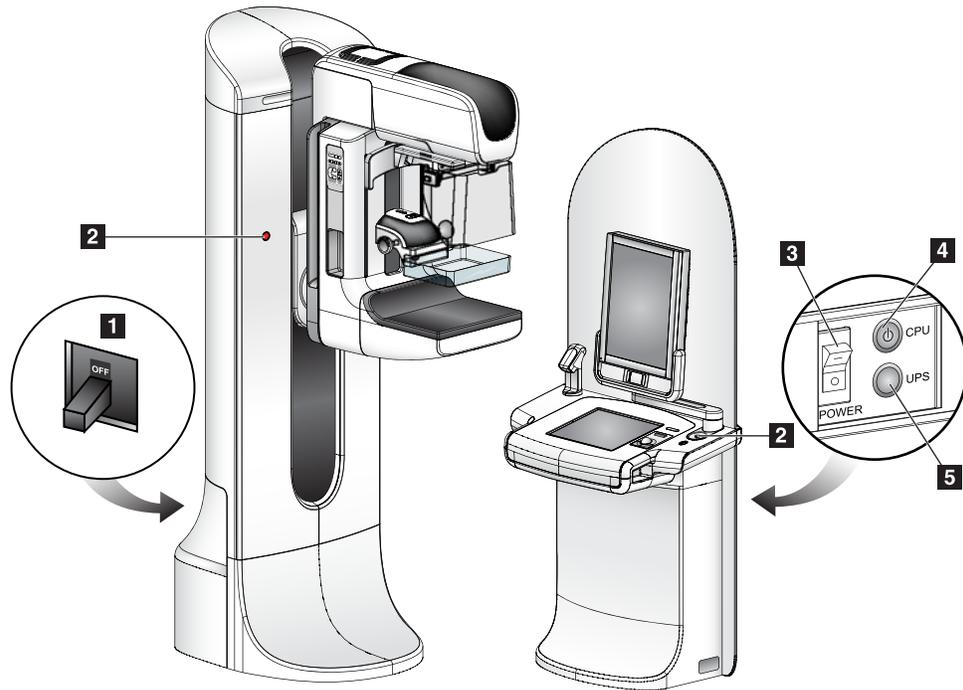

Figure 2-1: System Power Controls
Legend for Figure 2-1
2. Press the computer power button at the rear of the Acquisition Workstation (see Figure 2-1, page 9, number 4).